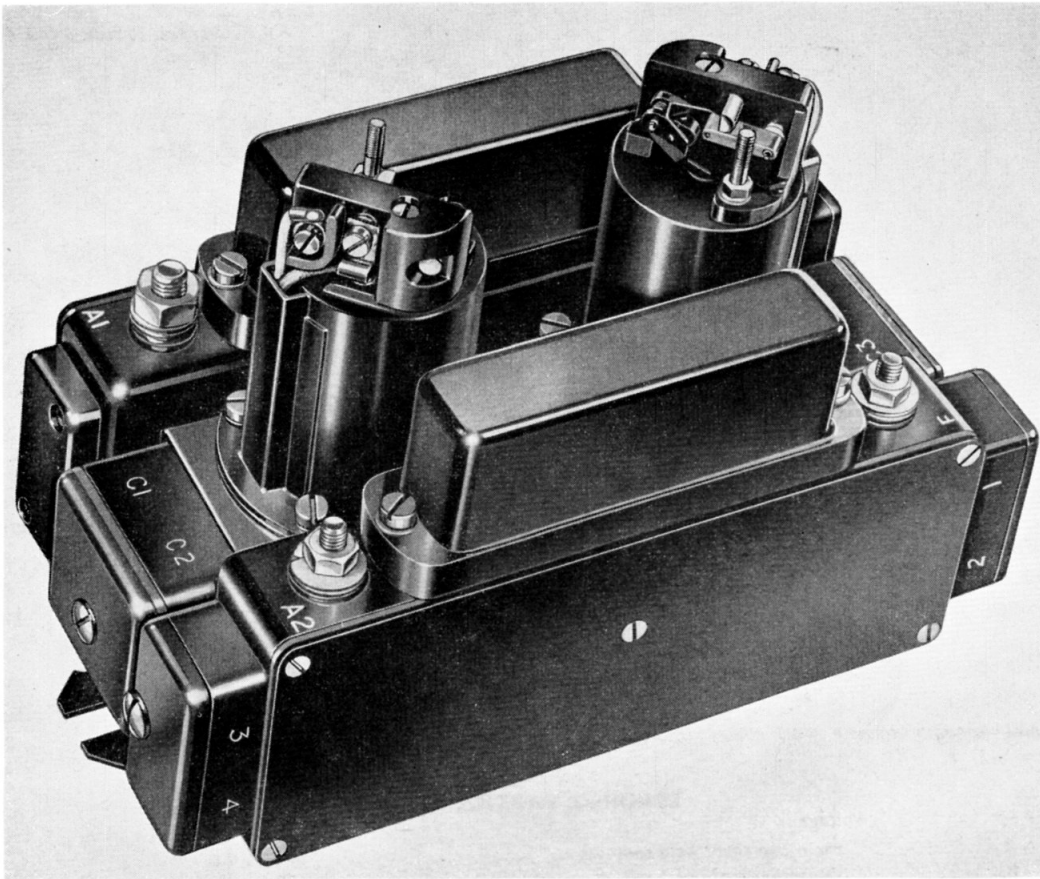
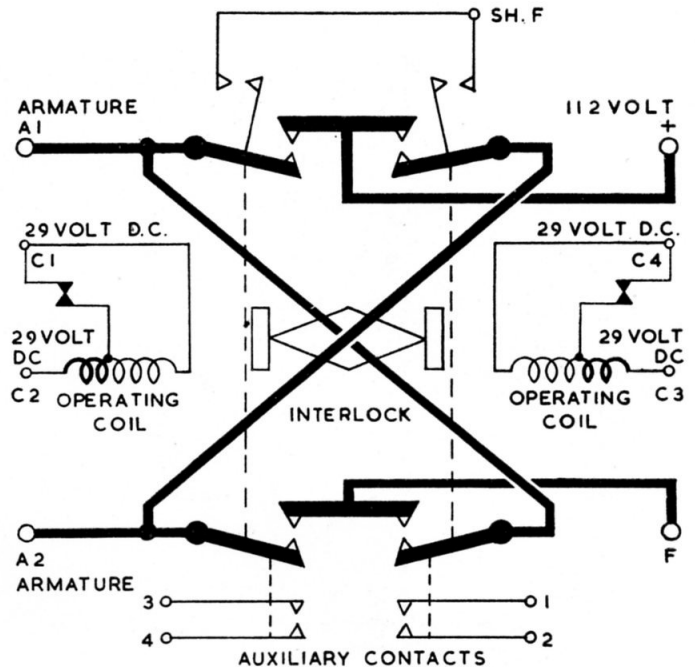

Fig. 1. General view with economy switch covers removed
Fig. 2. Diagram of internal connections
2. The D 9021 switch (*Fig. 1*) is similar to that described in A.P.4343, Vol. 1, Sect. 11, Chap. 12, with certain exceptions affecting its operation.
3. The two solenoid operating coils are a type designed to permit continuous operation. This is achieved by the use of an economy winding. The latter is brought into operation by an economy switch, one of which is mounted above each solenoid (*Fig. 1*) and connected in the operating coil circuit as shown in *Fig. 2*.
5. When the unit is not in operation, each economy switch is normally closed and short circuits a section of the operating coil. On application of the appropriate voltage to the operating coil terminals, the energizing current passes through the remaining, i.e. pull-in, section of the operating coil (*Fig. 2*). The plunger movement opens the economy switch and the energizing voltage is applied across the whole of the operating coil.